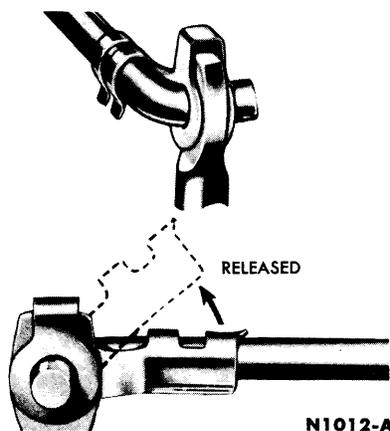

FIG. 4—Remote Control Rod Clips
4. Disconnect the links from the upper and lower bellcrank (Fig. 4). Remove the screws retaining the lock to the bellcrank and remove the lock.